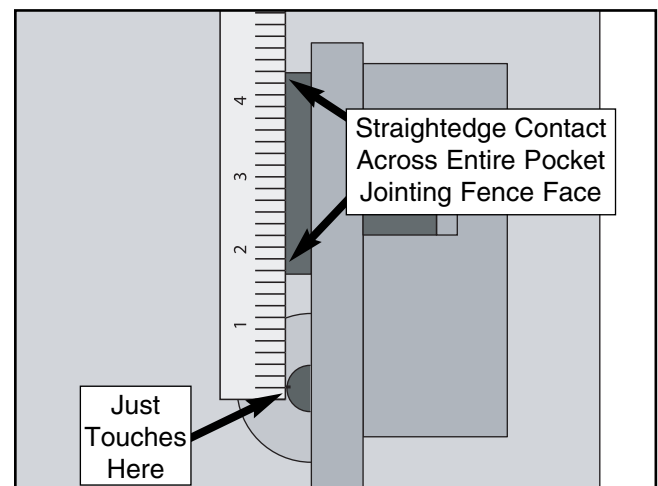

Figure 20. Use a straightedge to properly adjust the main fence.
6. Place a straightedge across the entire face of the pocket jointing fence and adjust the main fence until the outside diameter of the router bit just touches the straightedge (**Figure 20**).